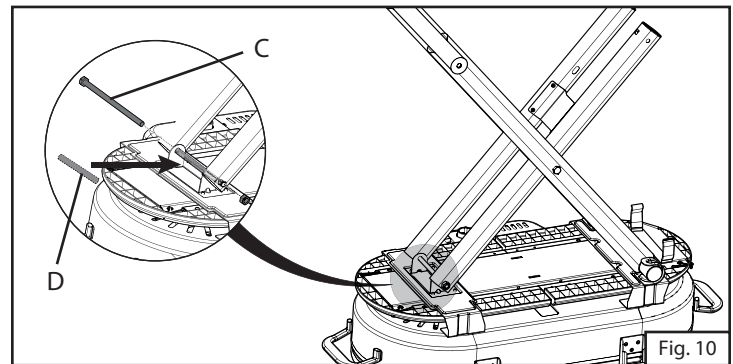

Fig. 10
7. Attach the handle leg to the grill base with bolt C and spacer D. (Fig. 10)